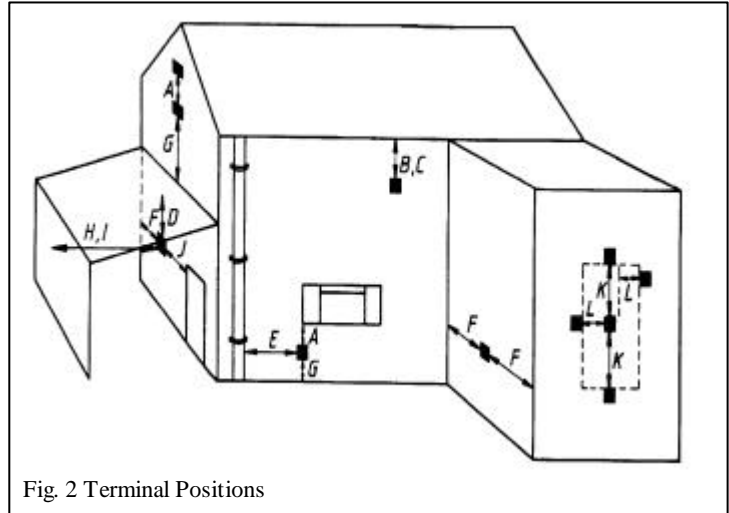

Fig. 2 Terminal Positions
2.12 Minimum allowable distances from the terminal are shown in figure 2 and table 1:-